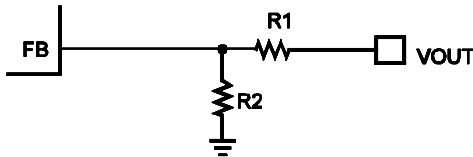

Figure 6: Feedback Network
The external resistor divider sets the output voltage (see Figure 6). The feedback resistor (R1) sets the feedback loop bandwidth with the internal compensation capacitor. Choose R1 to be around 82.5kΩ. R2 can then be calculated with Equation (2):